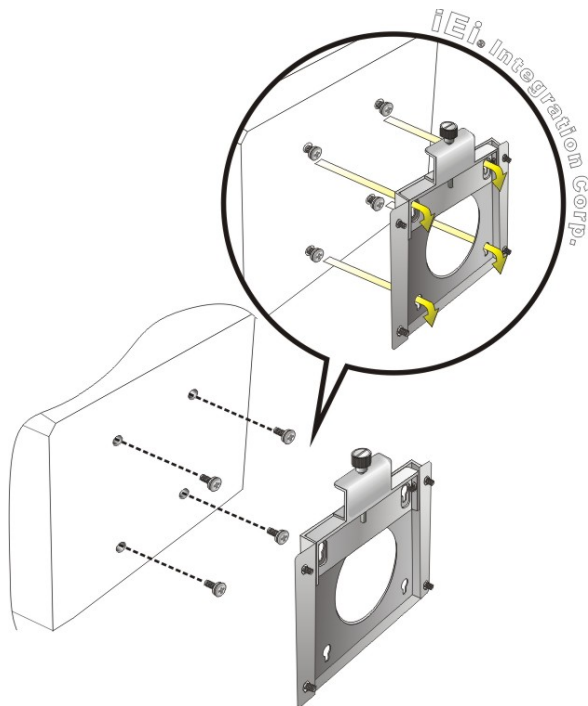

Figure 3-13: Chassis Support Screws
Step 6: Insert the four monitor mounting screws provided in the wall mount kit into the four screw holes on the rear panel of the flat bezel panel PC and tighten until the screw shank is secured against the rear panel (**Figure 3-13**).
Step 8: Carefully insert the screws through the holes and gently pull the monitor downwards until the monitor rests securely in the slotted holes (**Figure 3-13**). Ensure that all four of the mounting screws fit snugly into their respective slotted holes.